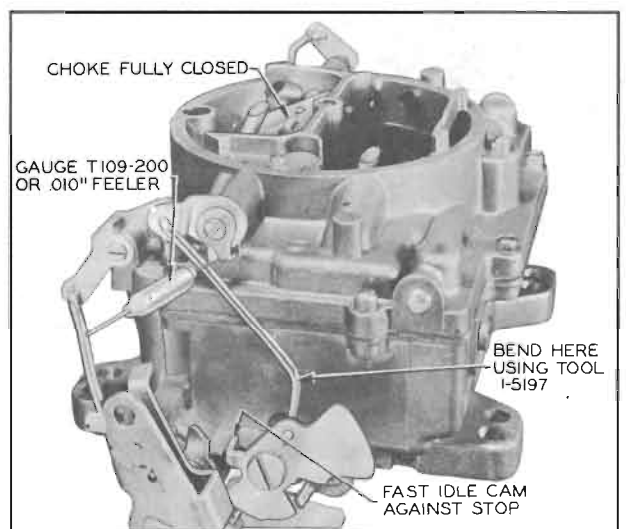

Figure 3-56—Fast Idle Rod Adjustment
21. *Adjust Fast Idle Rod.* Hold choke valve closed and hold fast idle cam against stop on casting, then check clearance between lugs on inner and outer choke shaft levers using Gauge T 109-200 or a .010" feeler gauge. Bend fast idle rod at lower angle as required to obtain this clearance using Tool J-5197. See figure 3-56.